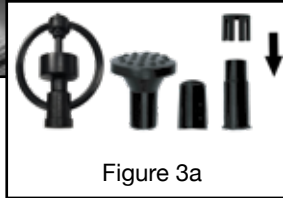

Figure 3a
**DANCING WATER ATTACHMENTS: (OPTIONAL):** You can put any of the Dancing Water Attachments on the Fountain whether the Fountain is running or is not running. Select one of the Dancing Water Attachments and place on the outlet in the middle of the Battery Compartment (Figure 3a, 3b & 3c).